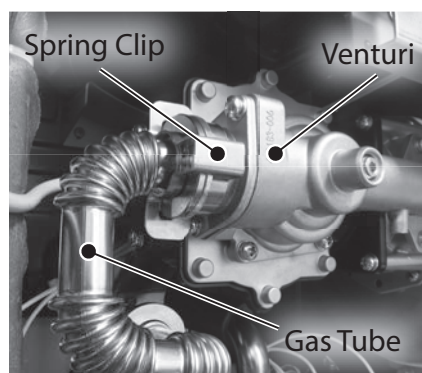

Figure 98 - Remove upper spring clip
**9** Locate the upper spring clip securing the gas tube to the venturi as shown in Figure 98. Note the orientation of the upper spring clip securing the gas tube to the venturi. Remove spring clip and place it aside in a safe place for
- 20** Install gas tube to venturi and locate spring clip previously removed in **Step 9**. Orient spring clip properly as shown in Figure 98. Install spring clip to secure the gas tube to the venturi. Confirm gas connection is tight and will not leak.